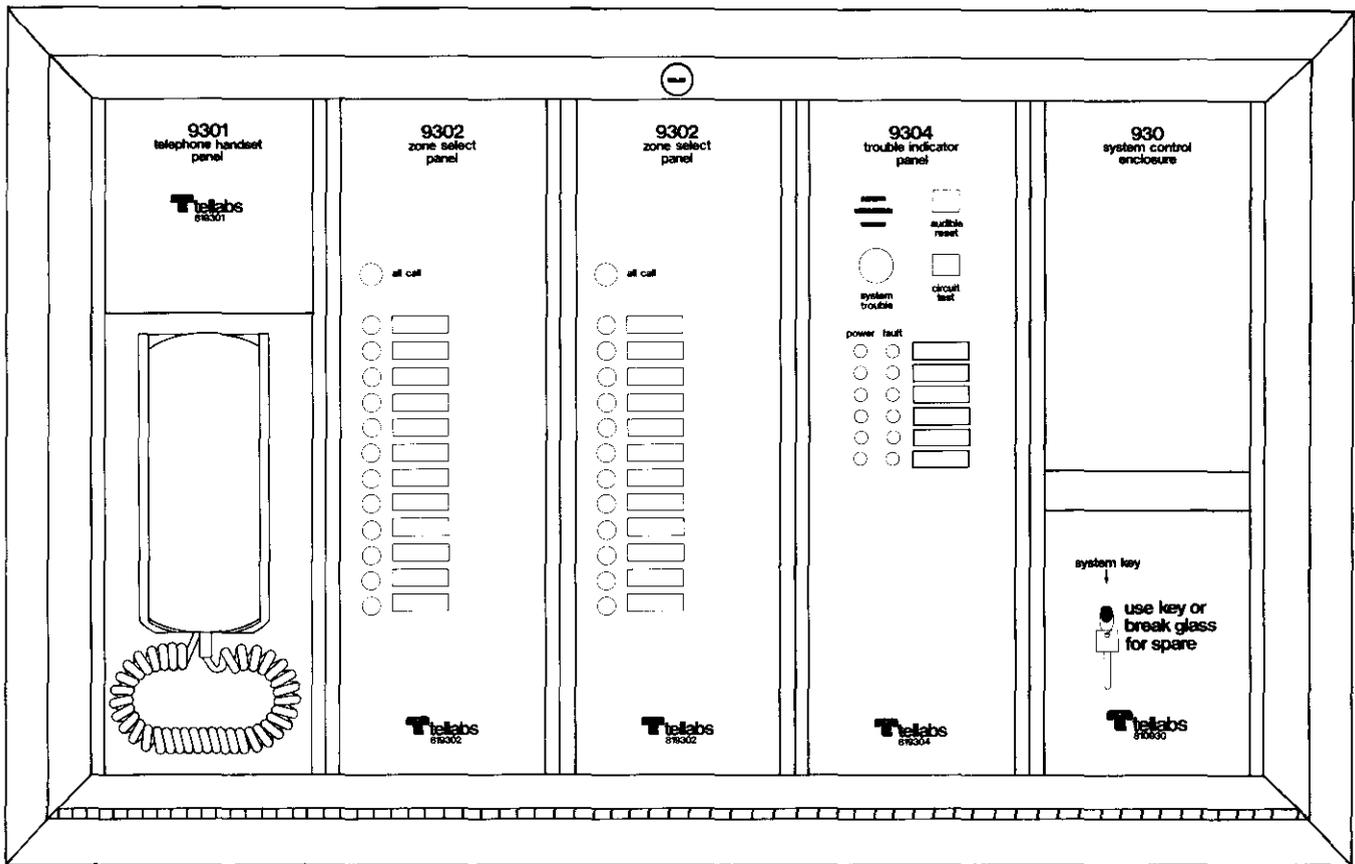

Figure 7. 930 System Control Enclosure (shown with a second 9302 panel, which is optional)
2.33 The 930 System Control Enclosure (see figure 7) provides activation control for the 294 System in the event of an emergency or for routine testing. This wall-mounted panel features a key lock to ensure controlled access to the activation controls. However, this panel also allows emergency access via a key obtained by breaking the small glass cover in the lower right corner. The System Control Enclosure is made up of the following sections: